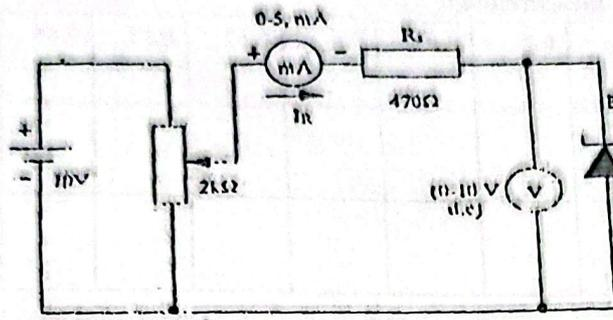
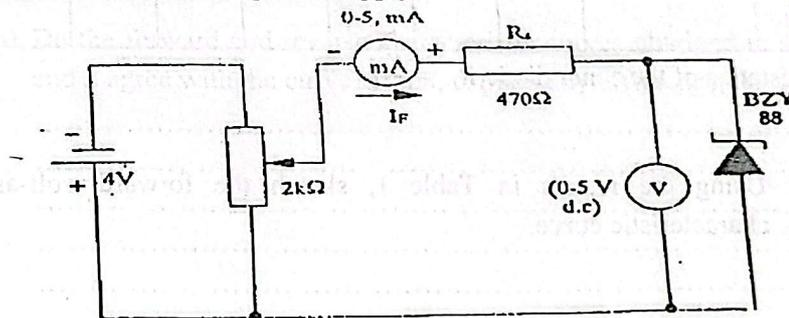

Fig. 3: Circuit showing zener diode in forward biasing condition.
Fig. 4: Circuit showing zener diode in reverse-biasing condition.
- (i) Connect the circuit of Fig. 3, keeping the power supply at 4V and the range of the voltmeter at 5V, max.
- (iv) Connect the circuit of Fig.4, keeping the power supply and those of the milliammetre, compared with the connection of Fig. 3.